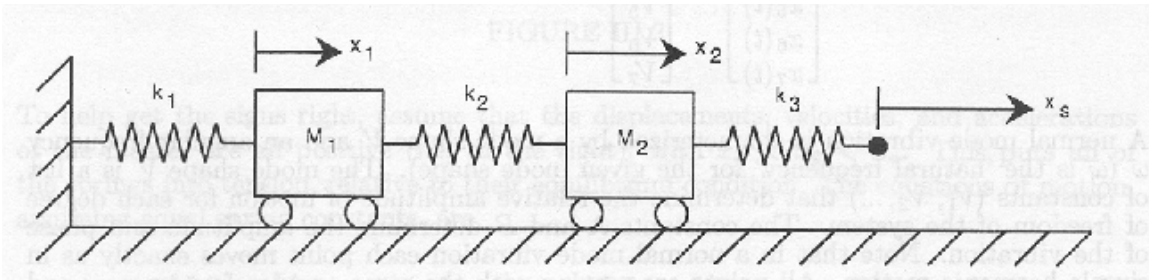

FIGURE III.1
We will derive here the equations of motion for the two-degree-of-freedom air track experiment. The variables and physical setup are shown in Fig. III.1. We will draw the free body diagram for each mass and work out its equation of motion.
- a) Write down the equations of motion for the system with two equal masses and three equal, massless, linear springs, as derived previously. Assume x_s (see Fig. III.1) is a given function of time: e.g., $x_s = \sin(t)$.